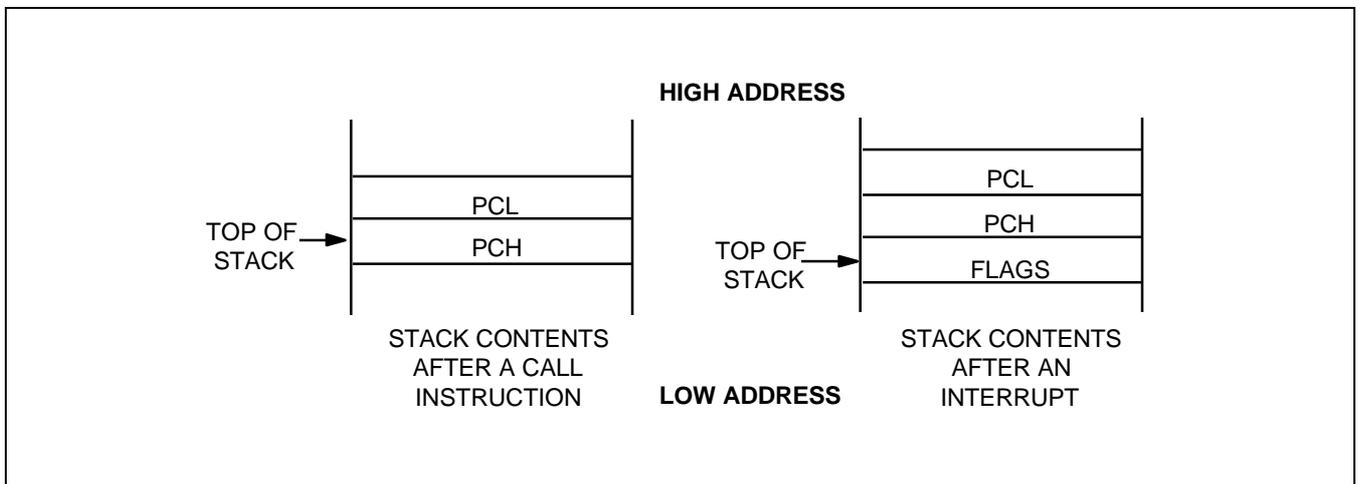

Figure 2-4. Stack Operations
Return addresses for procedure calls and interrupts and data are stored on the stack. The contents of the PC are saved to stack by a CALL instruction and restored by the RET instruction. When an interrupt occurs, the contents of the PC and the FLAGS register are pushed to the stack. The IRET instruction then pops these values back to their original locations. The stack address is always decremented before a push operation and incremented *after* a pop operation. The stack pointer (SP) always points to the stack frame stored on the top of the stack, as shown in Figure 2-4.